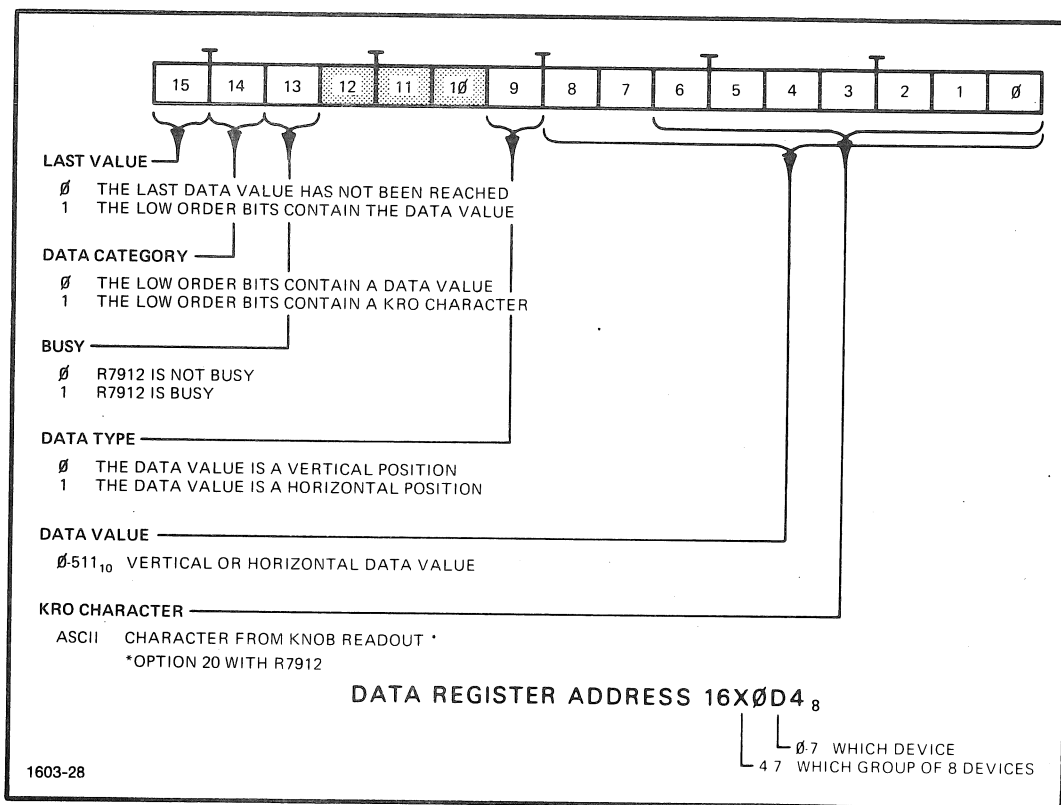

Fig. 2-11. R7912 Data Word Format.
- 2) R7912 - DATA REGISTER. All information supplied to the CP1100 Controller by the R7912 is sent via its Data Register. After a Command Address has been sent, and a Read Data command is issued, the R7912 sends all the data values of the waveform currently stored in its memory to the Data Register. Each time the register is read, the next data value is placed in it. Fig. 2-11 shows the R7912 Data Word Format.